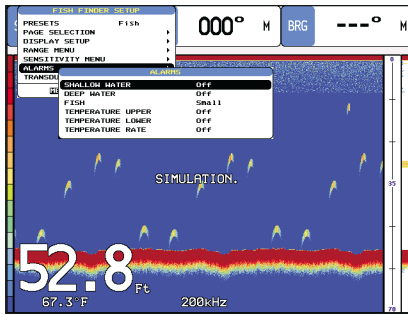

Figure 4.5 - Alarms sub-menu
- .. Reconnect the cables to the PCB (see the Fig. 4.5 for reference).